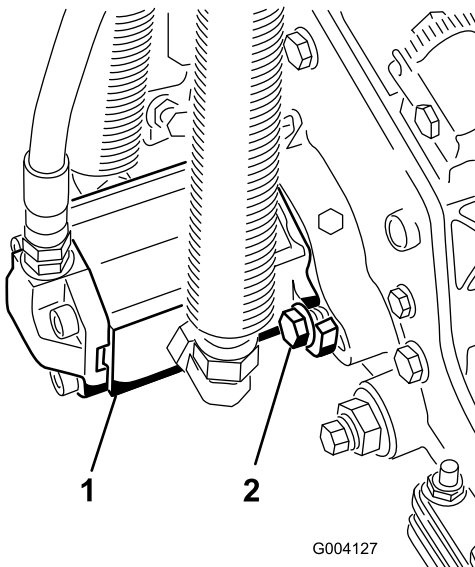

Figure 13
16. Install the motor by rotating it clockwise so that the motor flanges clear the bolts (Figure 13). Rotate the motor counterclockwise until the flanges encircle the bolts then tighten the bolts.